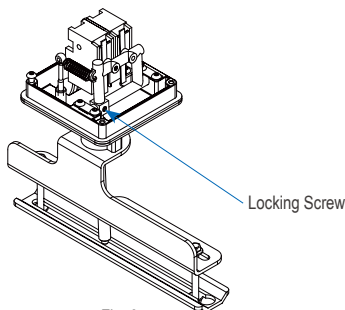

Fig. 3
- 2.3 Loosen the locking screw (see Fig. 3), adjust the length of the trip rod, make sure it sits at the right position where the trip rod should be exceeding the valve stem but not touching the mounting plate. Tighten the locking screw and fix the trip rod.